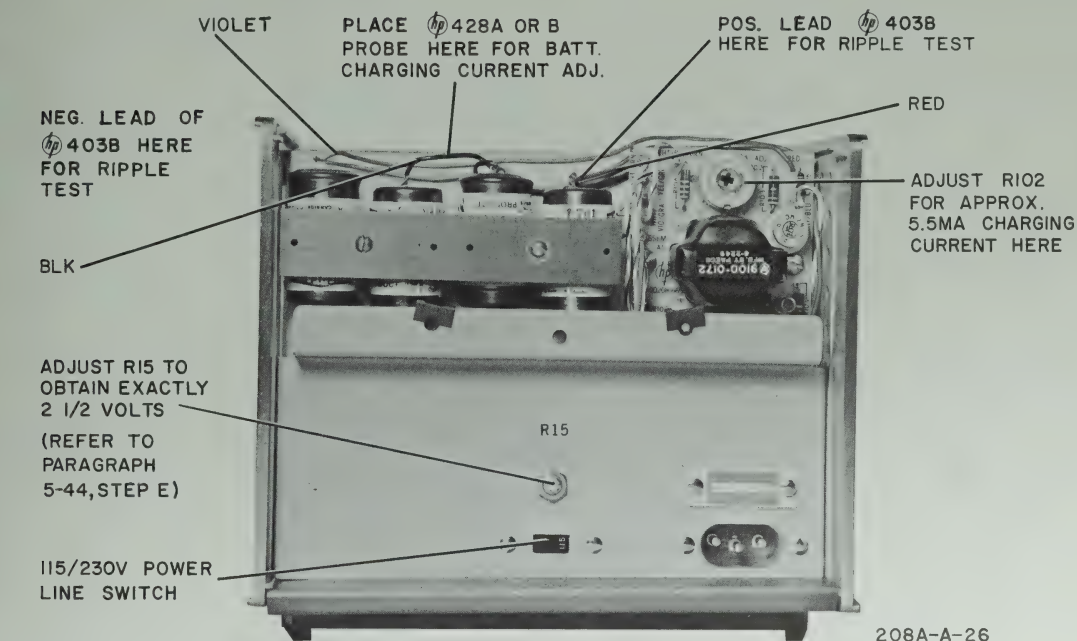

Figure 5-9. Rear View (Illustrating Charging Board)
b. Measure battery voltage, using an Φ Model 412A DC Voltmeter; connect the common lead to the violet wire and the volts lead to the red wire on the batteries. Refer to Figure 5-9 and 5-10.
f. Connect the Model 428A or B Clip-on DC Ammeter Probe around the black wire on the batteries. Refer to Figures 5-9 and 5-13.